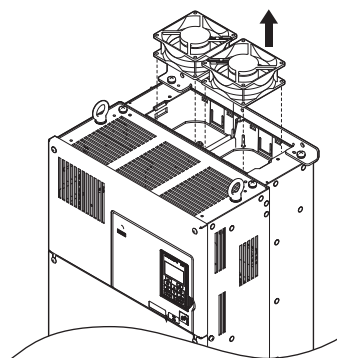

Figure 7.14 Removing the Cooling Fan: 4□0075 and 4□0091
2. Lift up directly on the cooling fan as shown in Figure 7.14. Unplug the relay connector and release the fan from the drive.